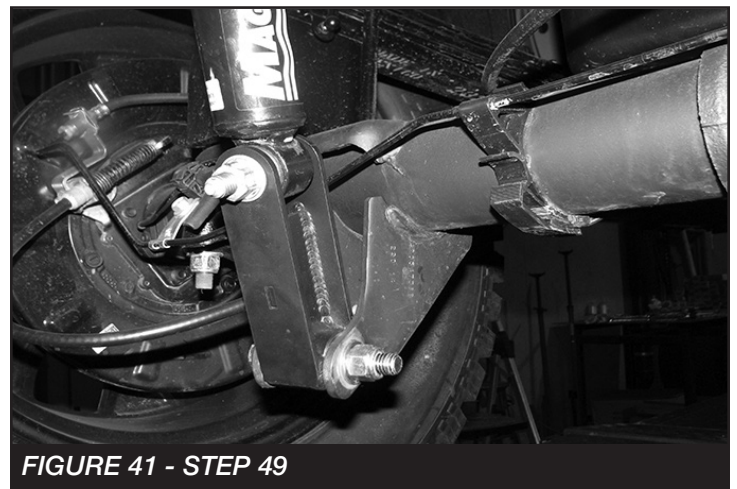

FIGURE 41 - STEP 49
49. Install FT20673BK rear shock bracket like shown in **FIGURE 41**. Torque to 100 ft-lbs